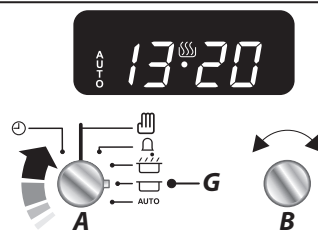

Fig. 3.5
1. Turn the **Timer (A)** knob to the **Stop Time (G)** setting. 'AUTO' will show in the display (**Fig. 3.5**).
Press and hold the [] button (Fig. 3.4), and then press the [+] button (or [-] button) until the length of time you want to cook for is shown (Fig. 3.5).